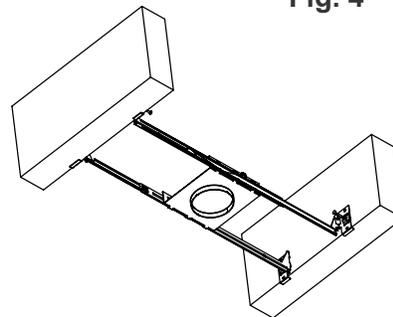

Fig. 5
Step 1. Extend hanger bars to fit between joists and set the new construction frame into place by hammering in the nails at each foot. **Fig. 5 and 6.**